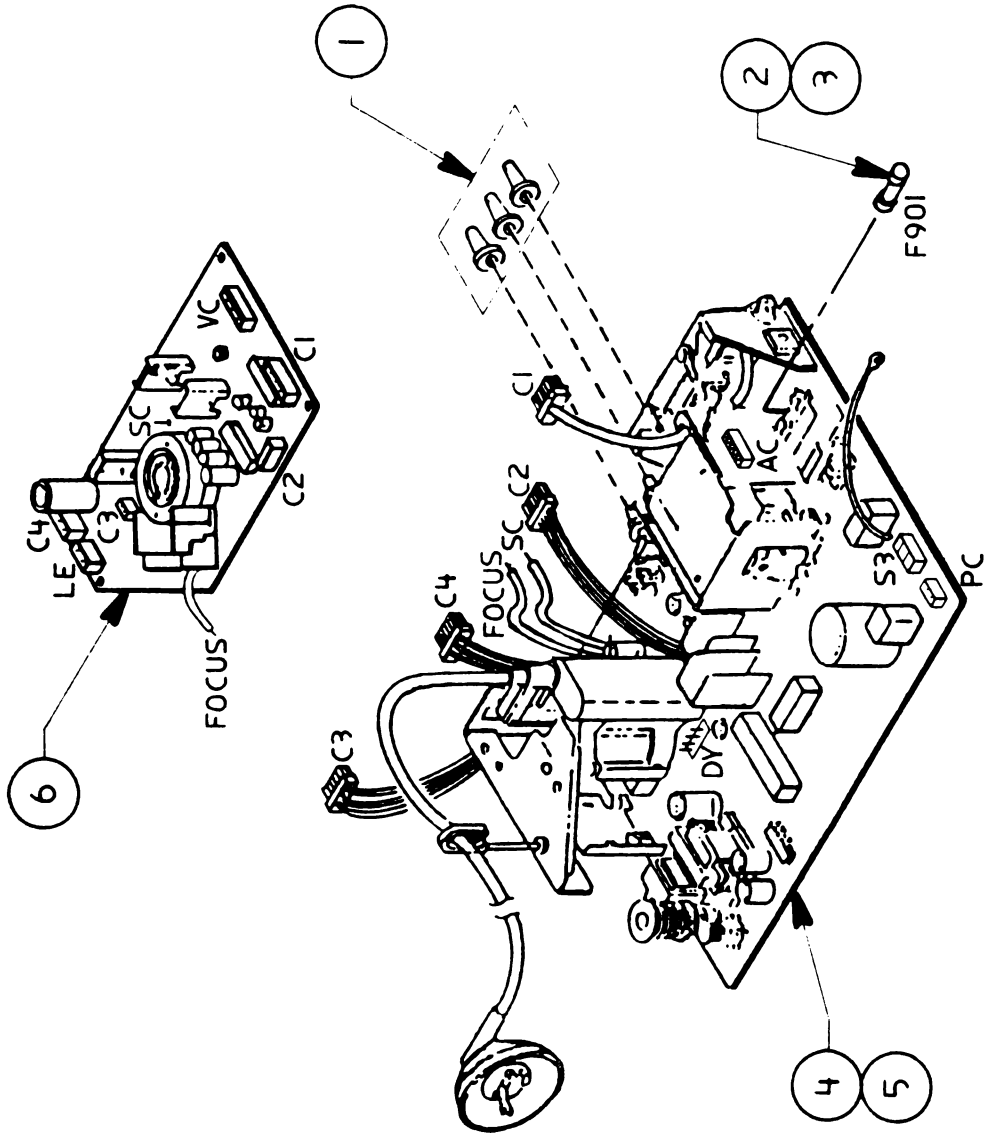

FIGURE 3
- 5.7 Power Supply, Video Board (Figure 3)
□ RGB MONITOR – POWER SUPPLY, VIDEO BOARD (Figure 3)